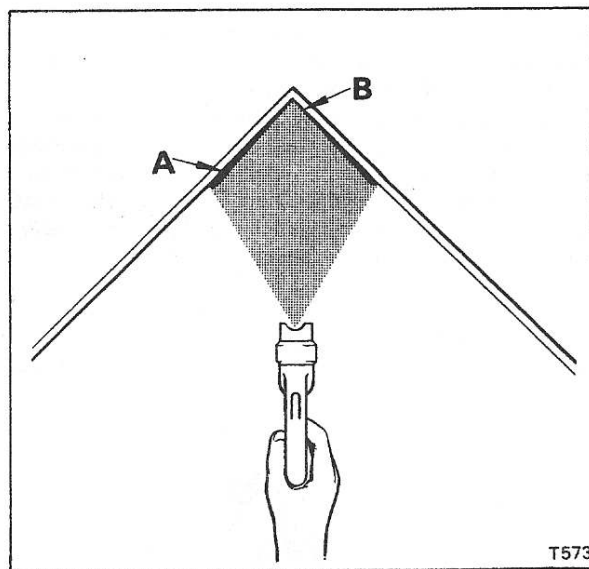

Fig. S73 Inside corner spraying
3. **Inside corner spraying.** There are two methods of spraying an inside corner. The spray gun can be pointed directly into the corner and the two adjacent surfaces sprayed together (see Fig. S73). The coating will not be uniform, but the technique is fast and satisfactory for most work.